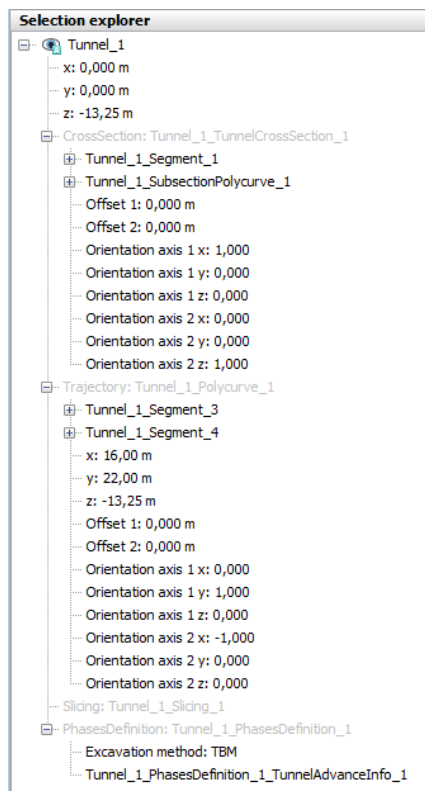

Figure 5.3 Insertion point of the tunnel
- In the *Selection explorer* set the insertion point of the tunnel to (0 0 -13.25) (Figure 5.3).